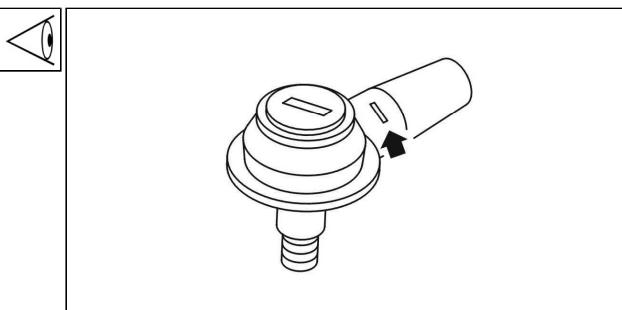

Fig. 10.52 Marking of LH thread joint
5. Screw the ball joint 7 (RH thread) and ball joint 1 (LH thread) evenly onto steering rod 5. The joint with LH thread is marked with the transversal groove in the upper part of the joint housing as shown by arrow in the figure (See Fig. 10.52).